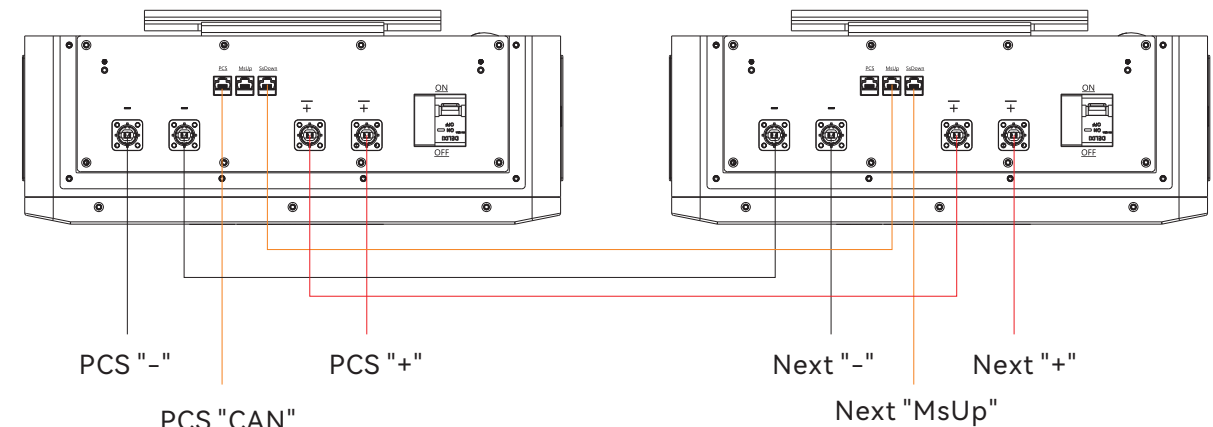

Figure 3-1
- ② Connect the battery output terminals P+ and P- on the chassis of the product to the DC output terminals "+" and "-" of the DC power module with red and black cables of 25m² or more gauge. For multi-level connection, For multi-stage connection, connect the battery packs in parallel and then connect them, as shown in Figure 3-1.
- ③ Connect the communication interface of the battery pack to the communication interface of the dynamic ring with a standard network port communication cable.
Battery packs can be operated singly or in parallel, with a maximum of 16 groups in parallel. The following figure takes 2 groups in parallel as an example, as shown in Figure 3-1.